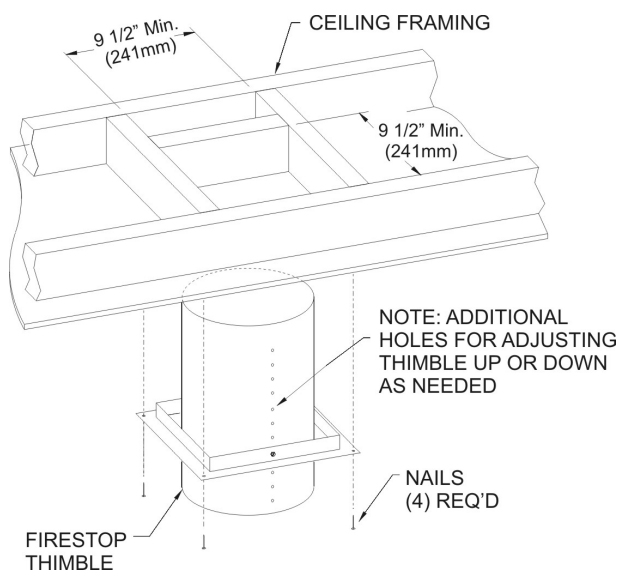

Figure 34
4. Once the fireplace location has been determined, mark the ceiling where the flex vent will pass through. Cut an opening for installation of the firestop thimble assembly. The opening must measure a minimum of 9-1/2" x 9-1/2" square. **See Figure 34.**